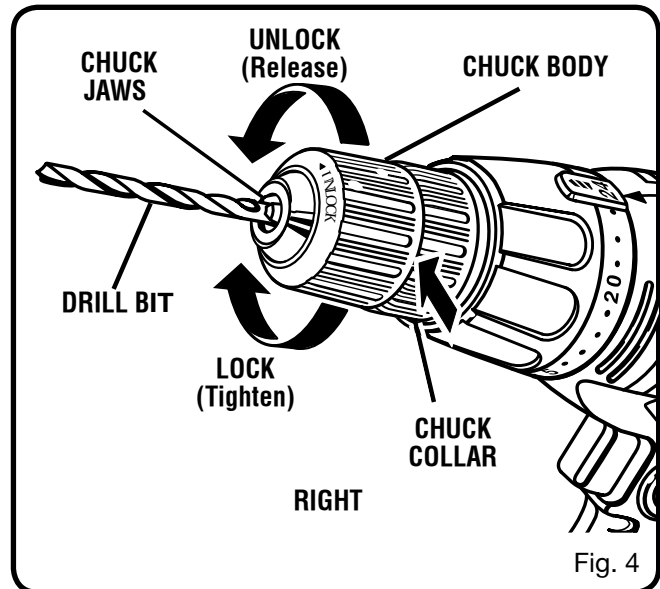

Fig. 4
See Figure 4.
- Insert drill bit straight into chuck the full length of the jaws as shown in figure 4.